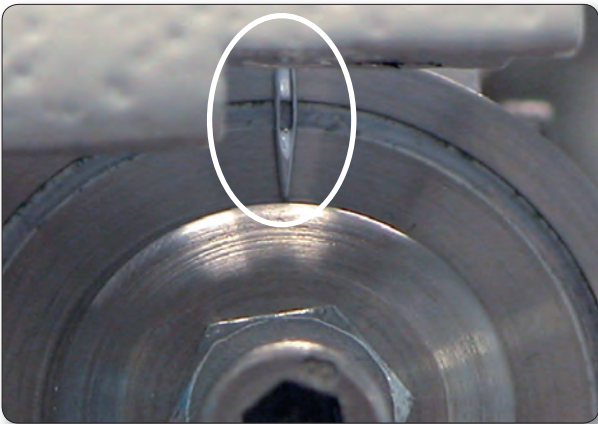

Figure 12.6
The height of the needle must be set from the front side of the machine as shown. The eye of the needle must align exactly to the groove as shown in (Figure 12.6 on page 36).
5. Sight through the needle eye and compare the upper and lower levels of the eye with the cylinder tool groove (Figure 12.6). If an adjustment is necessary, loosen the needle bar driving clamp slightly and raise or lower the needle bar.